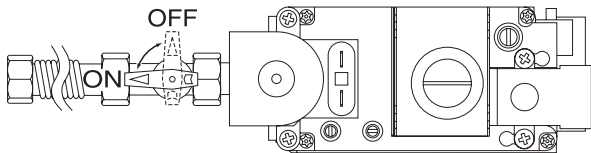

Figure 31 - Turning Equipment Shutoff Valve to the OFF Position
5. Turn equipment shutoff valve clockwise  to the OFF position (see Figure 31). Do not force.
6. Wait five (5) minutes to clear out any gas. Then smell for gas, including near the floor. If you smell gas, STOP! Follow "B" in the safety information, page 20. If you don't smell gas go to the next step.